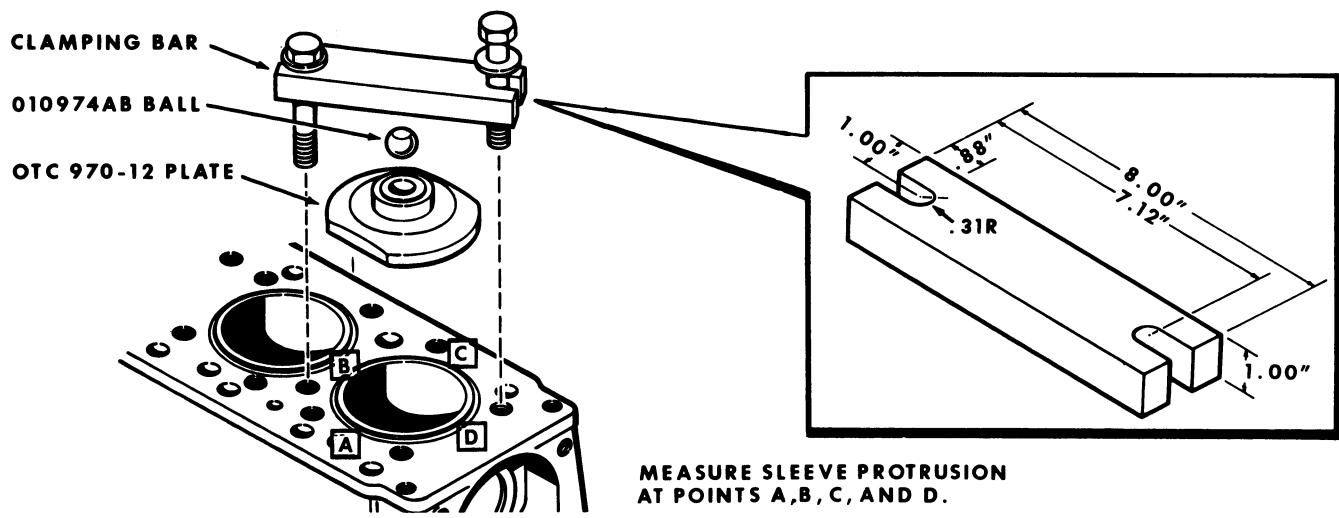

Figure K-2
3. Using plate OTC970-12* from cylinder sleeve puller OTC970*, 010974AB ball and clamping bar, clamp the cylinder sleeve in place, Figure K-2. Torque the hold down capscrews evenly to 50 foot pounds. **NOTE** Refer to Figure K-2 for clamping bar dimensions.